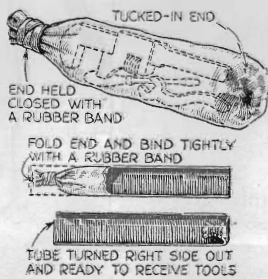

Fig. 3. A section of an old inner tube makes an excellent and serviceable holder for tools. It will not chew to pieces
**T**HE very serviceable tool bag shown in Fig. 3 is made from a piece of an old inner tube. Cut the tube about 1½ times the length of the longest tool that you want to put in it and then turn it inside out as shown. Fold neatly and compactly at one end, and bind as tightly as possible with a heavy rubber band also cut from the old tube. Turn right side out again, and, after inserting tools, close the end with another rubber band.